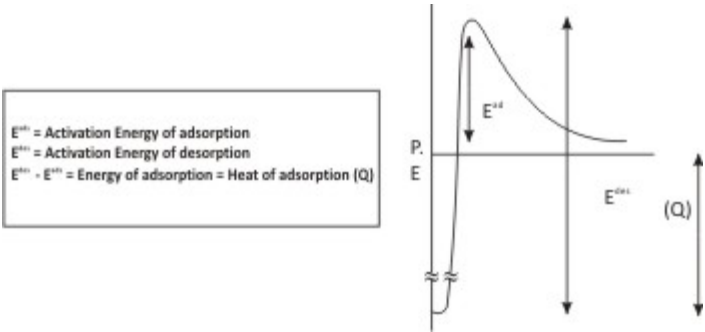

Fig. 7.5: Activation energy diagram for adsorption
- The activation energy **E^{act}** of adsorption ,since this determines the fraction of the colliding molecules possessing the necessary energy to be adsorbed (see figure 7.5)